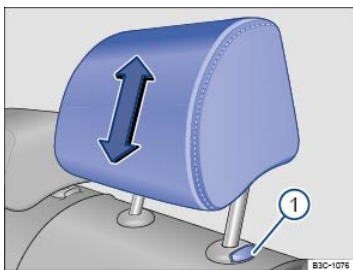
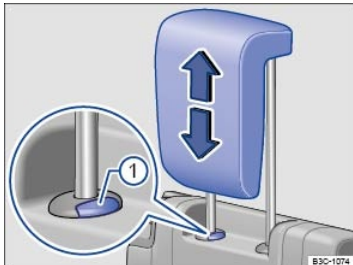

Fig. 90 Adjusting the second row head restraints.
Fig. 91 Adjusting the third row head restraints.
- To lower the headrest, first push the headrest down as far as it will go. Then push the button ⇒ Fig. 90① or ⇒ Fig. 91① and push the head restraint down completely.